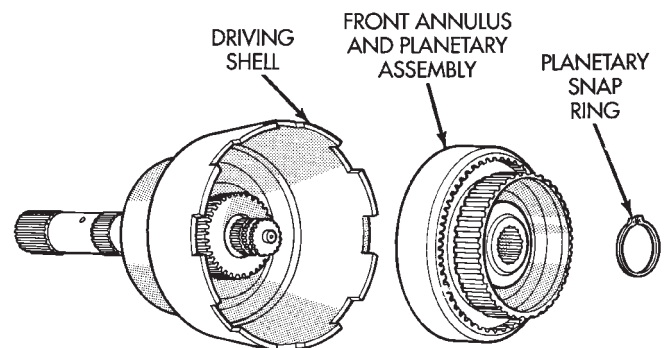

Fig. 223 Front Annulus And Planetary Assembly Removal
(1) Remove planetary snap ring (Fig. 223).
(2) Remove front annulus and planetary assembly from driving shell (Fig. 223).